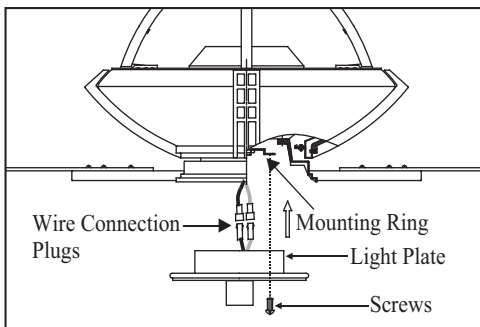

Figure 17
2. Connect the white wire connector from the light kit and fan, follow the same procedure with the black wire connectors. (Fig. 17)
3. Place the key holes on the light plate over the 3 screws previously loosened from the mounting ring, turn light plate until it locks in place at the narrow section of the key holes. Secure by tightening the 3 screws previously loosened and the one previously removed. (Fig. 17)